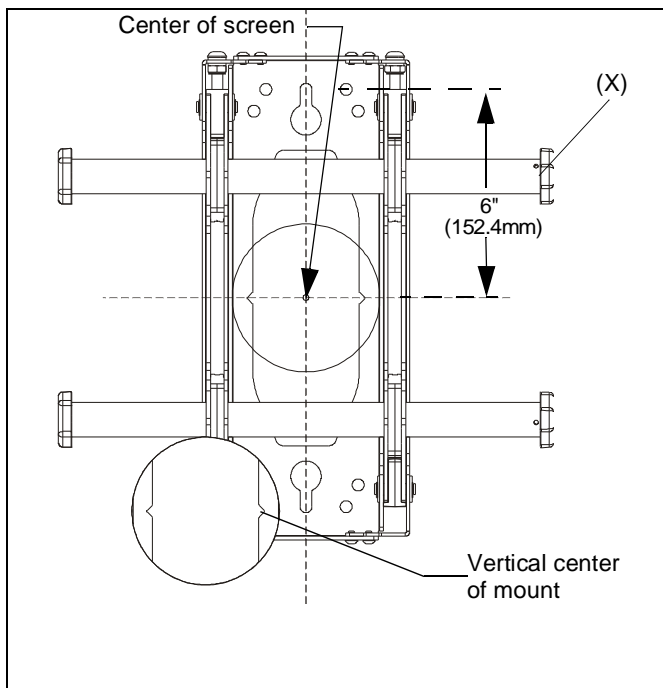

Figure 1
3. Line up the notches on wall mount (X) with center of screen marking to determine vertical center. (See Figure 1)
2. Line up the notches on mount (X) with center of screen marking to determine vertical center. (See Figure 1)
3. Measure up 6" (152.4mm) from the center point to mark location of the upper mounting slot. (See Figure 1)